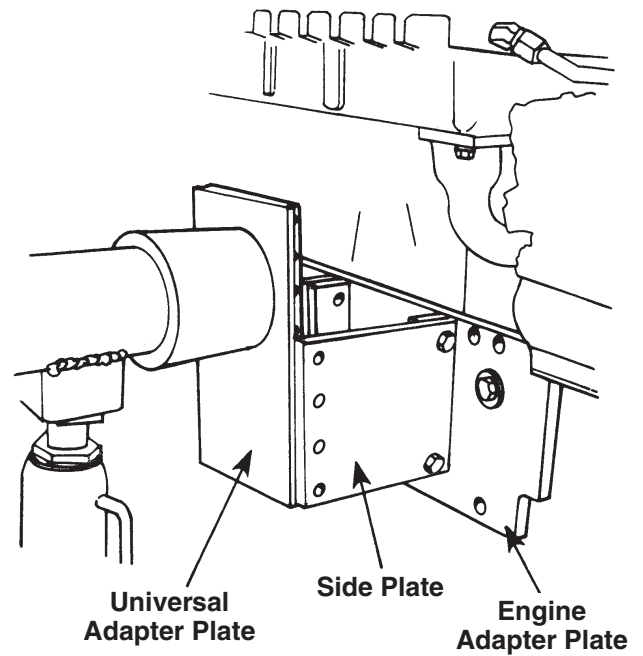

Figure 3
3. Bolt the engine adapter plate to the engine using the spacers, bolts, and washers specified in the application chart. Wrench tighten the bolts. See Figure 3.